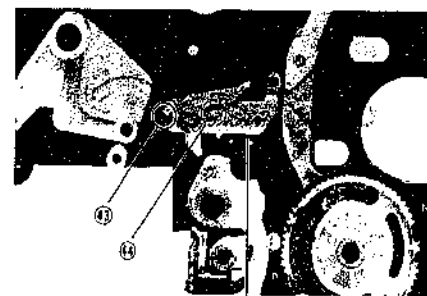

Fig. 39
- 2) 43, 44 2 screws. (Fig. 39)